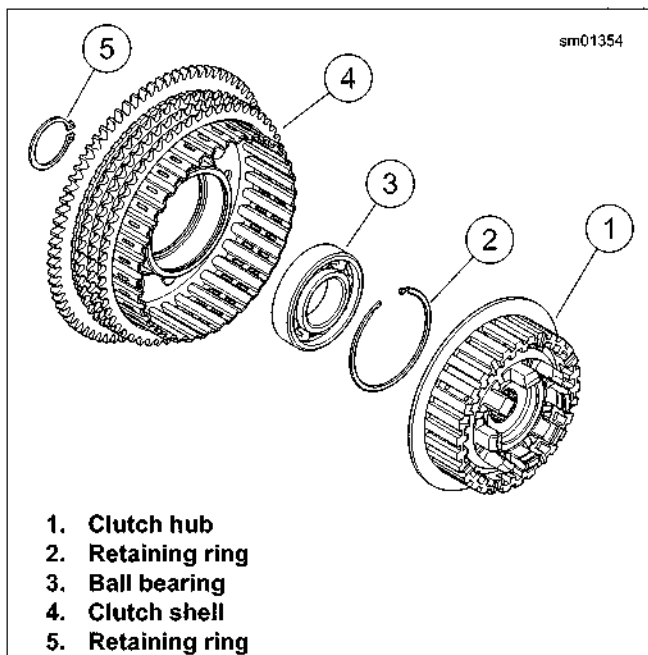

Figure 5-14. Clutch Hub and Shell Assembly
2. See Figure 5-14. Assemble the clutch hub (1) and clutch shell (4):
- a. Press a **new** ball bearing (3) into clutch shell.
- b. Secure the bearing with a **new** retaining ring (2).
- d. Secure with a **new** retaining ring (5) on end of hub.